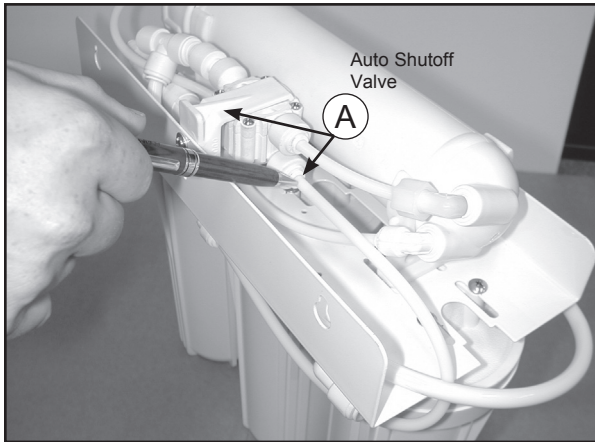

Figure 9 - Disconnect pre-carbon outlet tube from shutoff valve
- a. Disconnect the line from the auto shut off valve that runs from the outlet side of the Pre-Carbon Filter (Sump #2) to the Auto Shut Off Valve. Direct tubing into a pail or catch basin (See A in Figure 9).